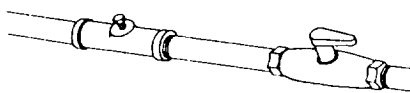

Figure 4
3. The gas supply line MUST have a shut-off valve preferably within six feet of the dryer (Figure 4).
4. A 1/8 inch NPT plugged tapping, accessible for test gauge connection, must be installed immediately upstream of the gas supply connection. The dryer and its individual shut-off valve must be disconnected from the gas supply piping system during any pressure testing (Figure 4) of that system at test pressures in excess 1/2 psig (3.45 kPa). The dryer must be isolated from the gas supply piping system by closing its individual manual shutoff valve during any pressure testing of the gas supply piping system at test pressures equal to or less than 1/2 psig (3.45 kPa).